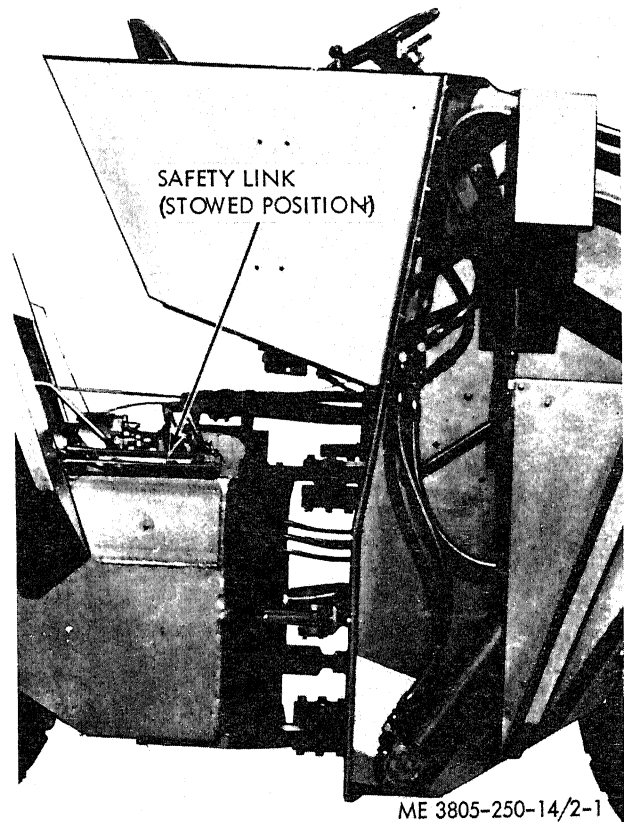

Figure 2-1. Safety link.
Before operation, position safety link in the stowed position. (fig. 2-1.)
a. Install the safety locking bar (fig. 2-1).